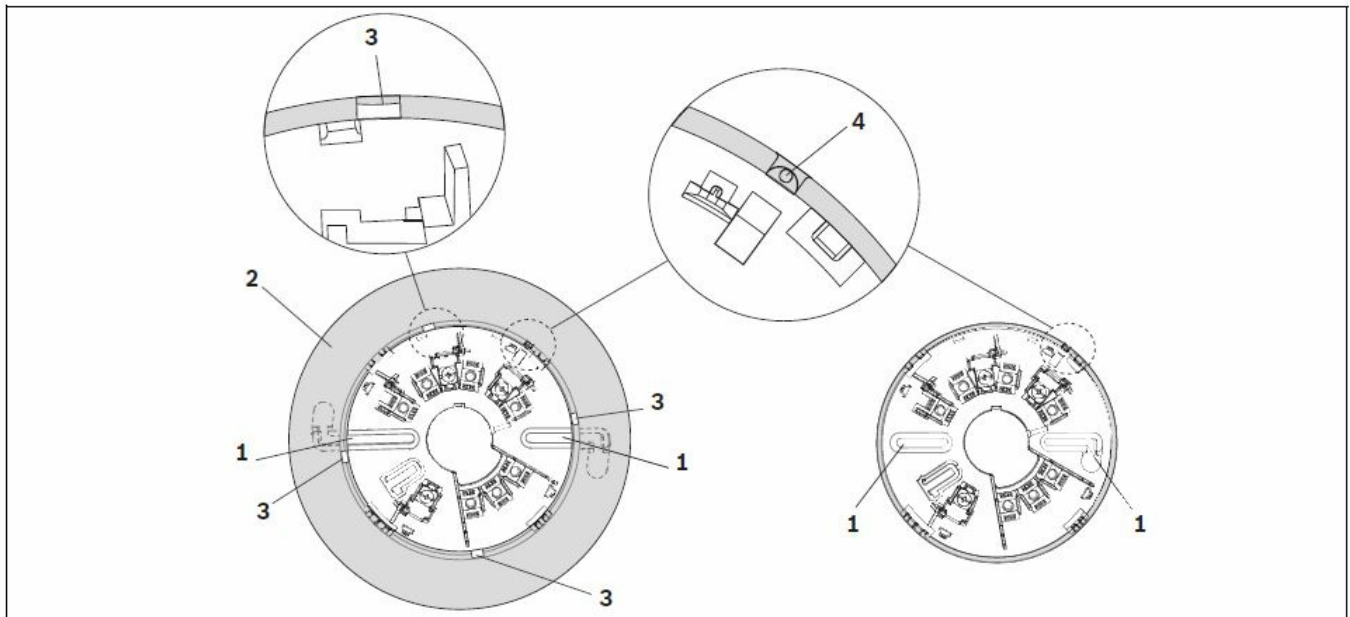

Figure 3.1 6-inch and 4-inch Mounting Bases
1. Mount the base using the two oblong mounting holes (see Figure 3.1, Position 1). If you mount the detector with a 6-inch base, first remove the base skirt (2) from the mounting base using a screwdriver to release the 4 tabs (3).
3. Turn clockwise until the detector head locks into place and aligns with the semi-circle notch (4).
1. Holding a magnet at the test point centered over the semicircle notch on the head (see Figure 3.1, Page 7, Position